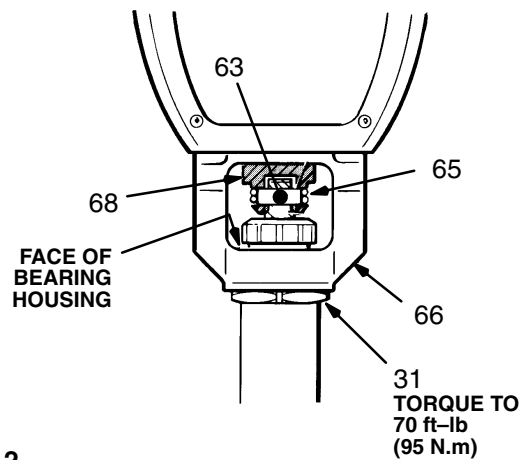

Fig 36-2
15. Screw the displacement pump about 3/4 of the way into the bearing housing (66). Hold the pin (63) up to the pin hole in the connecting rod assembly (68) and continue screwing in the pump until the pin slides easily into the hole. Back of f the pump until the top threads of the pump cylinder are flush with the face of the bearing housing and the outlet nipple (67) is straight back. Push the retaining spring (65) into the groove all the way around the connecting rod. Tighten the locknut (31) very tight—about 70 ft-lb (97 N.m)—with a 2 in. open-end wrench and a light hammer. *Refer to Fig 36-2.*
Be sure the retaining spring (65) is firmly in the groove of the connecting rod, all the way around, to prevent it from working loose due to vibration. Refer to Fig 36-2.